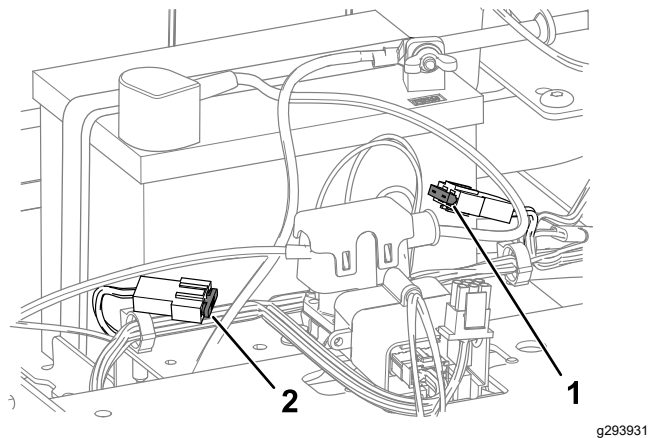

Figure 51
4. To replace a fuse, pull out the fuse to remove it (Figure 51).